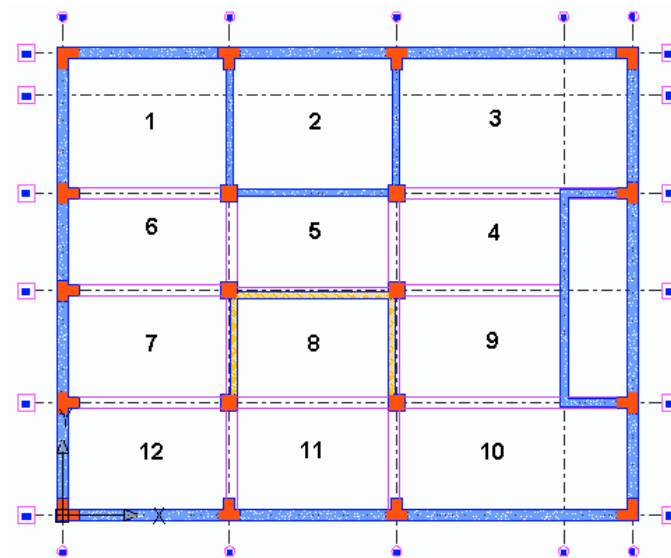

Figure 64: Steps for creating slabs
5. Click the areas (as shown in the Figure 64) to create the slabs. The slabs are automatically created using boundary detection.